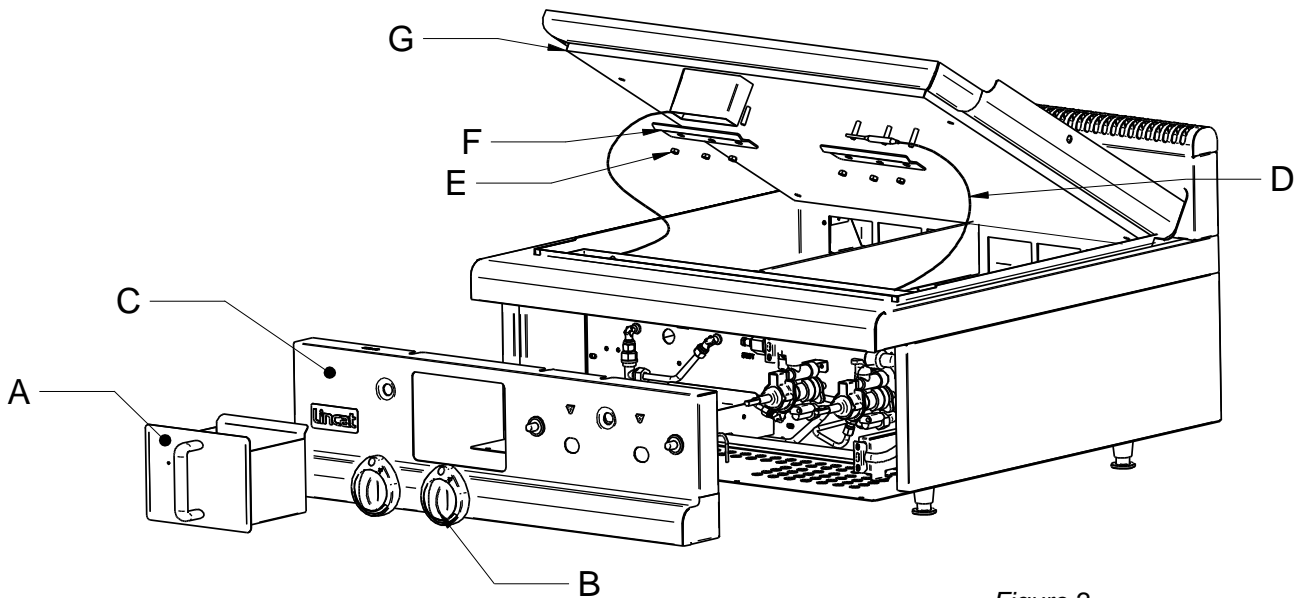

Figure 2
- Loosen the thermostat bulb clamping plate nuts (marked E, fig2) and withdraw the thermostat bulb.